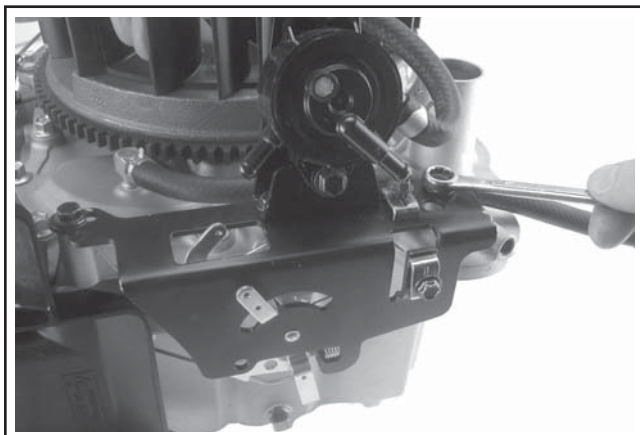

Figure 10-71. Attaching Speed Control Bracket.
2. Attach the speed control bracket to the mounting locations on the engine with the M6 screws. Position the bracket as marked during disassembly. Torque the screws to 11.0 N·m (95 in. lb.) into new, as-cast holes or 7.5 N·m (65 in. lb.) into used holes. See Figure 10-71.